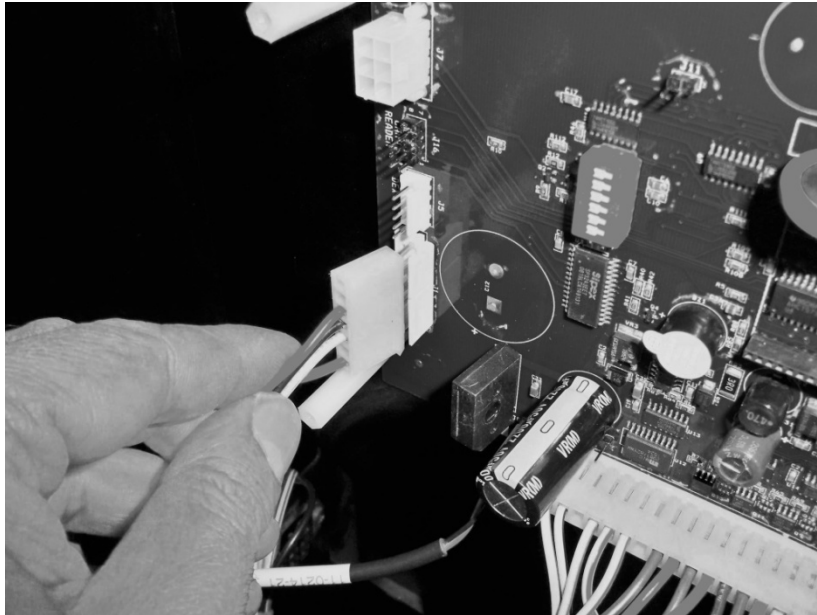

Figure 21
17. Connect the existing power cable, as shown in figure 21 to the “POWER” header (J1) on VMC Control board.